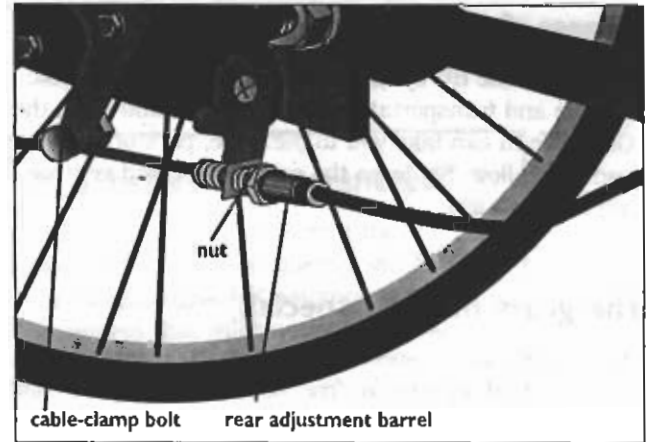

Figure 2
4. If more adjustment is needed, use a pliers to loosen the nut near the rear adjustment barrel (Figure 2).